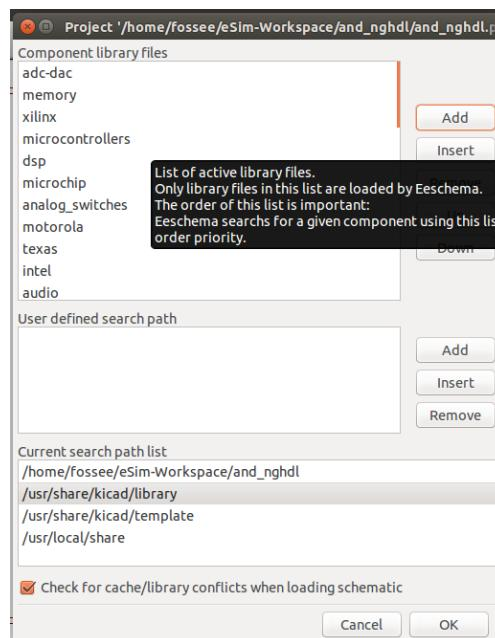
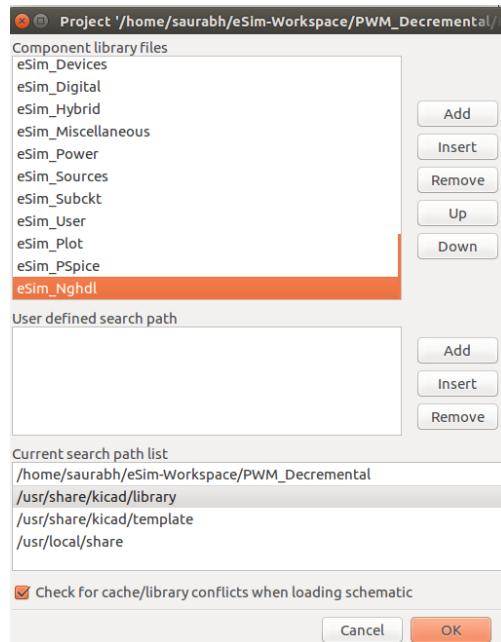

Figure 9.6: Adding the digital model library in KiCad
Figure 9.7: Selection of library
2. After successful upload of the model using the VHDL code, you can create the schematic of your design by clicking on Open Schematic button on the left pane of the eSim window. Then go to Preferences option on top of the schematic editor window and click on Component Libraries to add the library eSim\_Nghdl.lib in KiCad. Following window will appear as shown in Fig. 9.6, where you will have to
click on *Add* button and select the **eSim\_Nghdl** library. Refer Fig. 9.6 and Fig. 9.7.